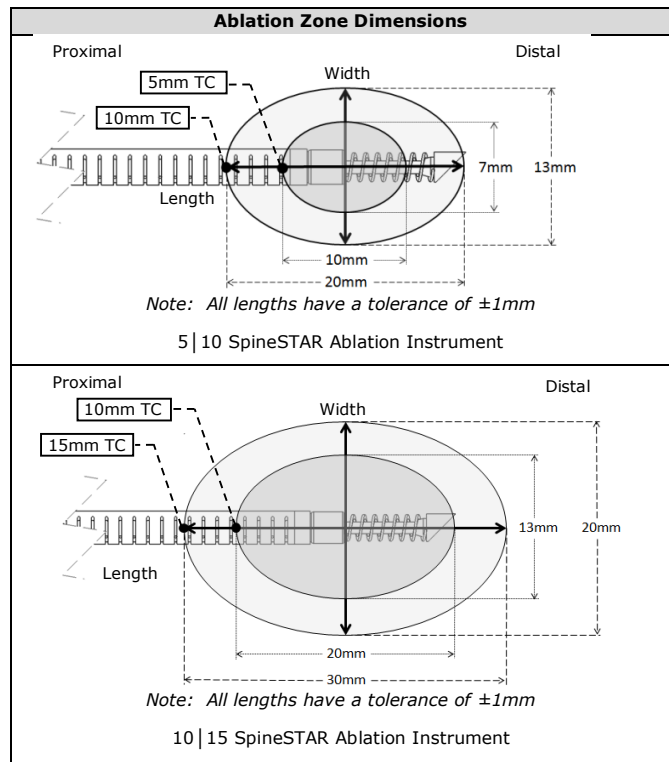

Figure 5: Ablation Zone
- The device must be positioned such that when ablation is performed, nerves and nerve roots are beyond the ablation zone; failure to utilize the Ablation Zone Dimensions may result in severe injury to the patient. See Figure 5